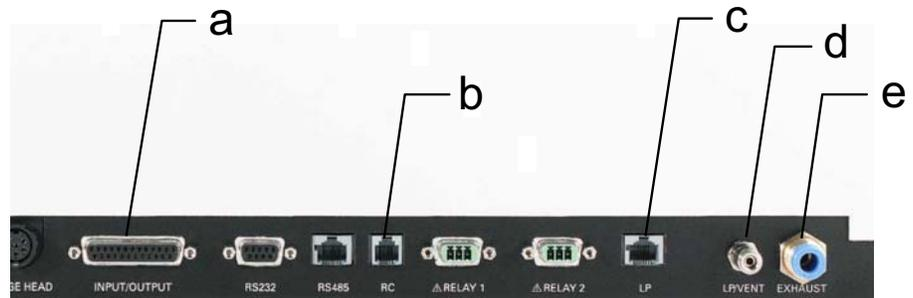

Fig. 5: Connection strip
2. Attach the sniffer line into the LP/Vent connection for the sniffer probe (see Fig. 5, page 19).
The wired remote control is connected to connection 2 (RC) (see Fig. 5, page 19).
- ▶ Connect the exhaust gas line to exhaust port 5 (see Fig. 5, page 19).
In vacuum test modes, if the test object is vented with a gas – e.g. argon or dry nitrogen – instead of with air, a gas source is connected to the device. Connect the gas source to connection 4 (see Fig. 5, page 19).